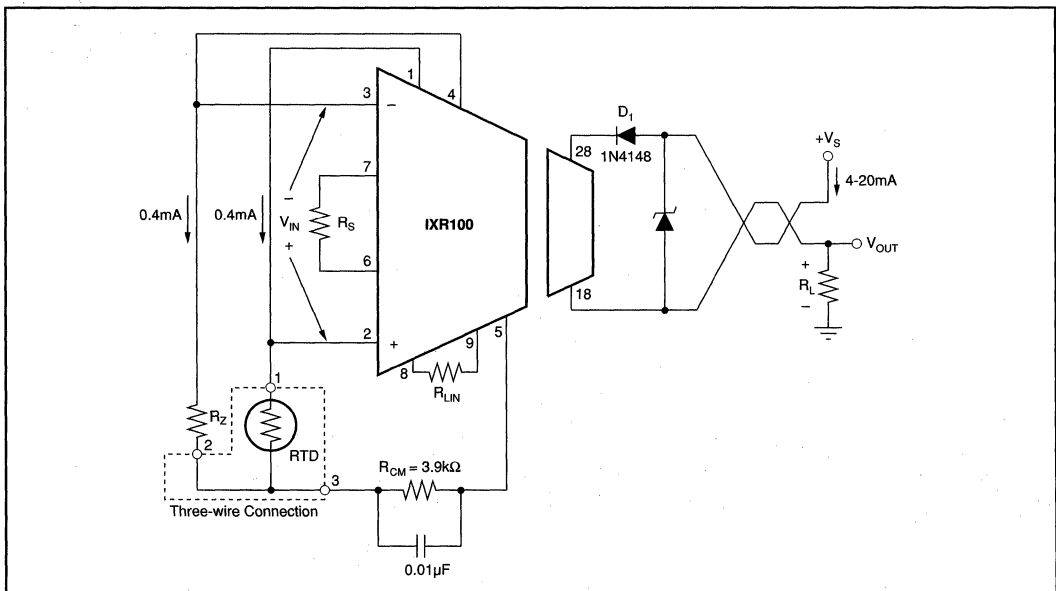

FIGURE 7. Basic 3-Wire RTD Connection for Increase-Increase Action.
- It is recommended that a reverse polarity protection diode be used. This will prevent damage to the IXR100 caused by a transient or long-term reverse bias between pins 18 and 28. This diode can be connected in either of the two positions shown in Figure 7, but each connection has its trade-off. The series-connected diode will add to the minimum voltage at which the IXR100 will operate but offers loop and device protection against both reverse connections and transients. The reverse-biased diode in parallel with the IXR100 preserves 11.6V minimum operation and offers device protection, but could allow excessive current flow in the receiving instrument if the field leads are accidentally reversed. This is particularly
In three-wire applications, shown in Figure 7, the RTD and R_z lead arrangements set up a pseudo-Kelvin connection to the RTD. This occurs because the currents through the three wires are set up in opposing directions and cancel IR drops in the RTD leads. The current sources are both modulated
In some applications of the IXR100, the RTD will be located remotely. In these cases, it is possible for open circuits to develop. The IXR100 responds in the following manner to breaks in each lead. The following connections refer to the RTD connections shown in Figure 7.